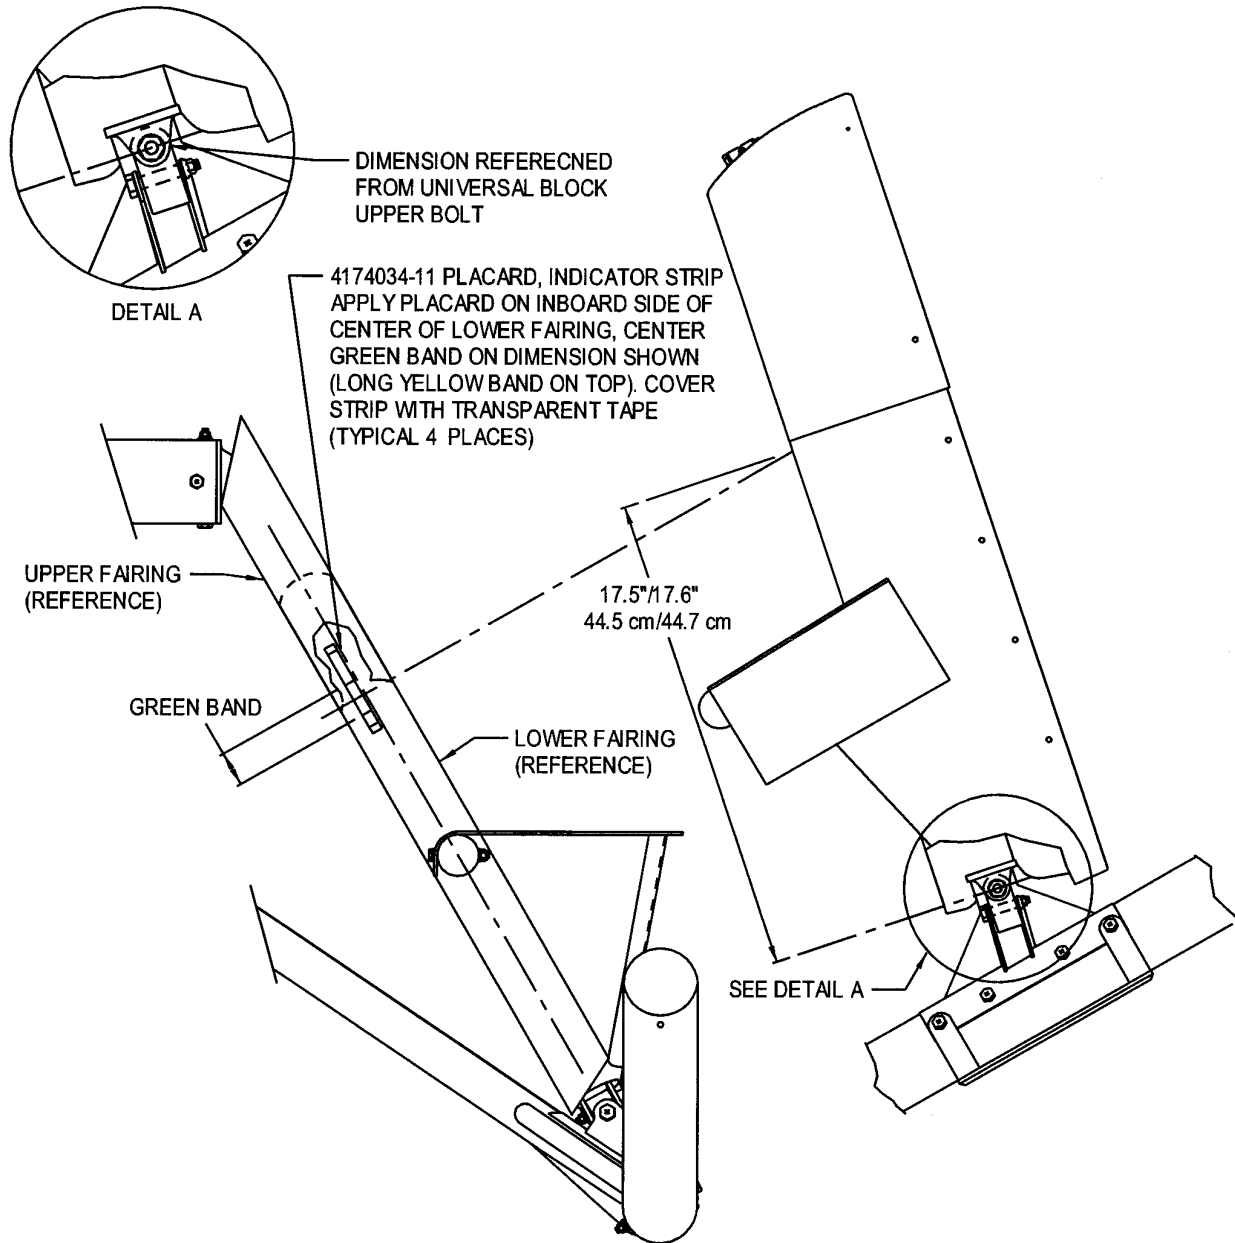

Figure 1.
- F. Install the indicator strip (placard) and the transparent tape on the lower portion of the fairing assembly in accordance with Figure 1.